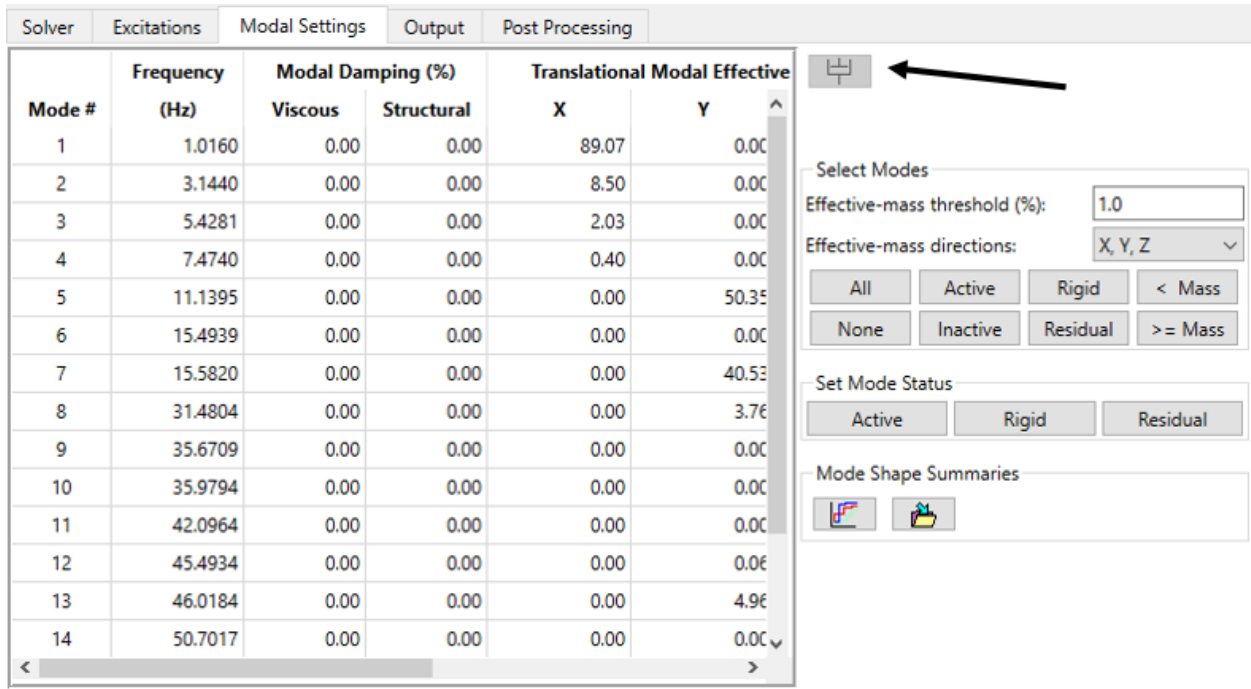
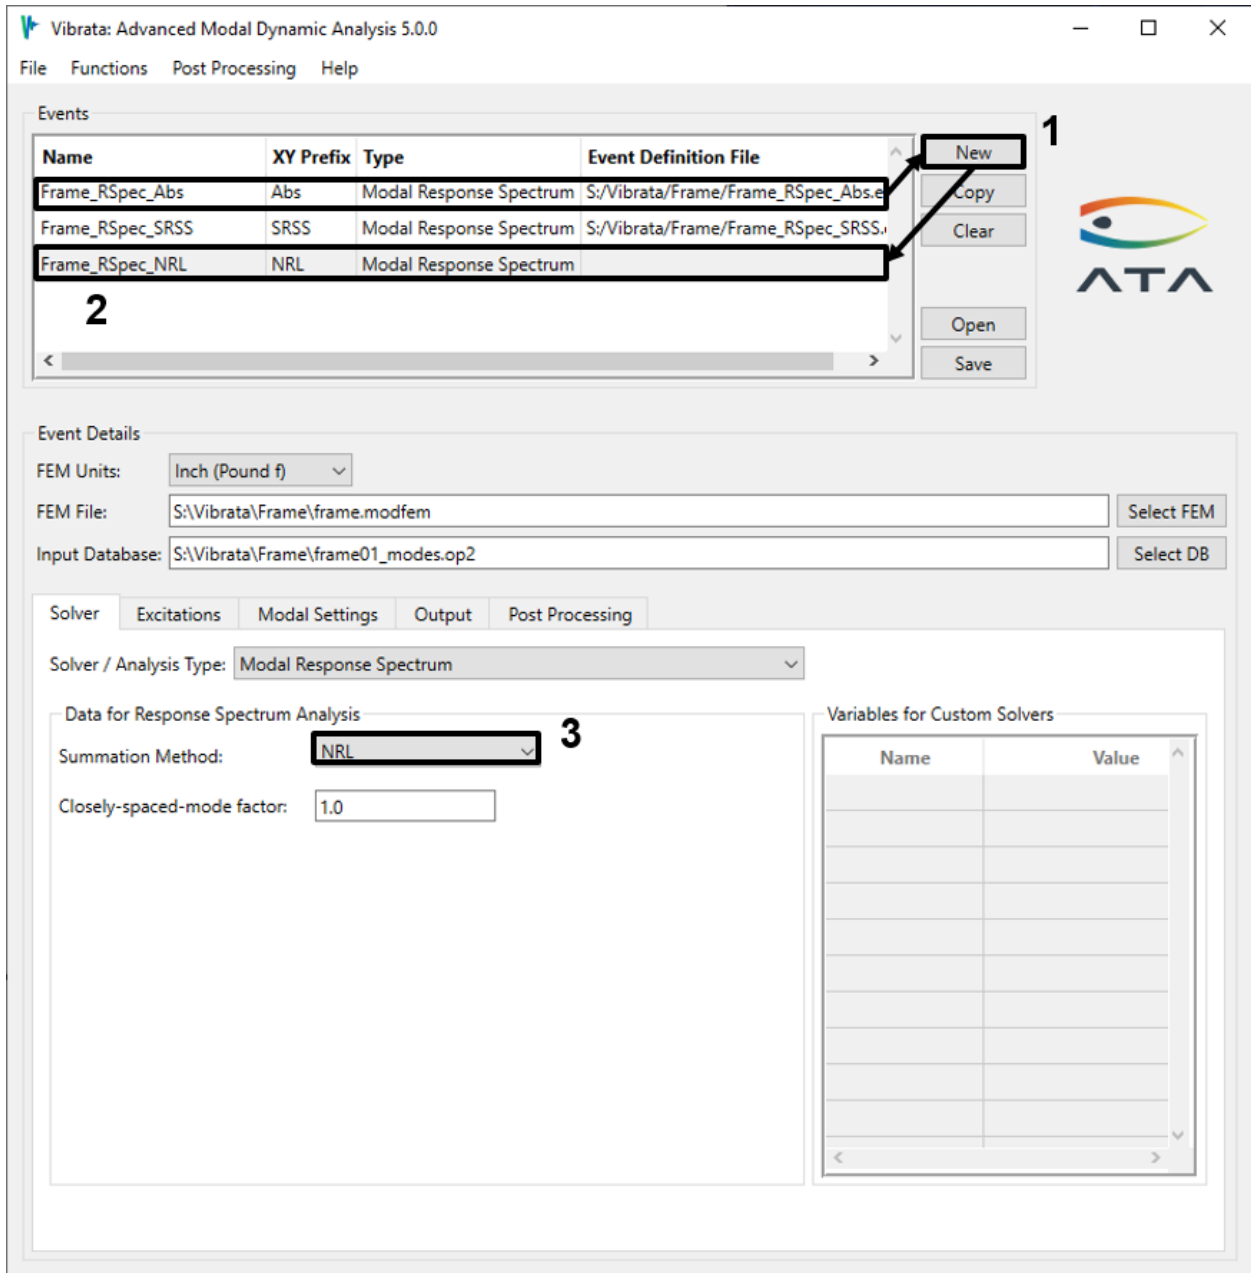

Figure 4-81. Damping is not needed and the damping dialog button is disabled.
Figure 4-84. Copy again to create a third event using NRL summation.
- No damping is needed for response spectrum analysis, as the damping level is already accounted for in the response spectrum function. In fact, you cannot even open the damping dialog (Figure 4-81).
- Copy the first event again. Change the summation method to *NRL* and set the Closely-spaced-mode factor to 1.1 (Figure 4-84). From Figure 4-81 you can see that the frequencies of modes 6 and 7 and modes 9 and 10 are within 10% of each other, so they will be considered closely spaced. Solve the event.
14. The results are summarized in Table 4-1. The SRSS method produces the lowest responses since it sums the modal responses as if they are all *out* of phase, while the absolute value method produces the highest responses since it sums the modal responses as if they are all *in* phase. The NRL results in this example are between these two because it sums modal responses as in phase if it considers them closely spaced and out of phase if not closely spaced. This makes the NRC10 results somewhat surprising. Since it uses the same closely-spaced-mode parameter as the one we selected for the NRL case, we might have expected its results to match the NRL results, yet they are indistinguishable from the SRSS results. There is a significant difference between the NRL and NRC10 methods that accounts for this. While both treat closely spaced modes as in phase, NRL also treats the maximum-response mode as in phase with all of the closely spaced modes. Looking at the effective masses in Figure 4-81, this will clearly be mode 1. It is not “close” to any other mode, so it will not be part of the in-phase summation for NRC10, but it will be for NRL.